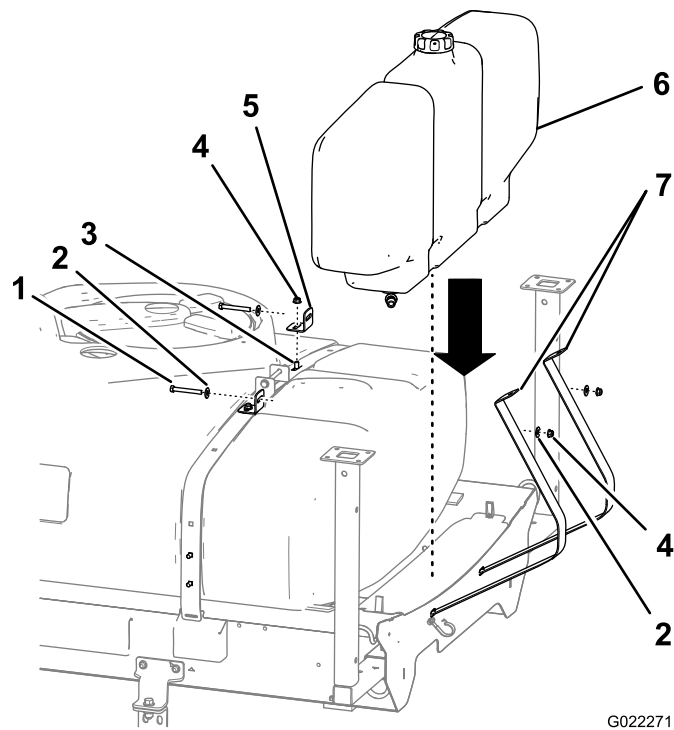

Figure 3
- 1. Install the rinse tank as shown in Figure 3.
- 2. Using 2 flange nuts, install the rinse tank brackets to the 2 carriage bolts in the tank straps (Figure 3).
- 4. Connect the rinse tank straps to the brackets using 2 bolts, 2 flange nuts, and 4 large washers as shown in Figure 3.